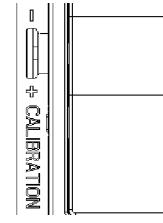

Figure 1
8. Dimmer may require adjustment to the low end setting to reliably start and/or remove flickering in bulbs. To adjust, DISCONNECT POWER FROM CIRCUIT, and remove the Wallplate. Use a small insulated, flat tipped screwdriver to adjust the trim pot wheel, which is accessible via the slot (marked "CALIBRATION") provided on the strap (Figure 1). Turn the wheel **downwards** to **increase** the minimum light intensity setting and turn the wheel **upwards** to **decrease** light intensity. Next, install the Wallplate, restore the power and test. Repeat above as necessary.